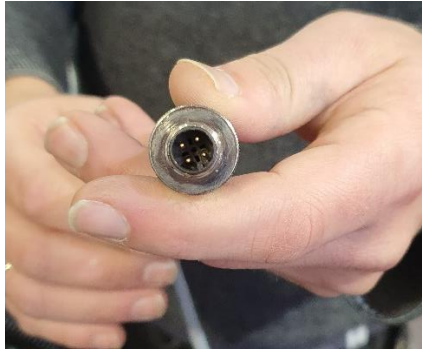

Figure 7: Cable Connector
6. Connect the cable connector (Figure 7) to the sensor level cable with a gentle rotating motion until it latches on, then rotate the nut until it locks in.